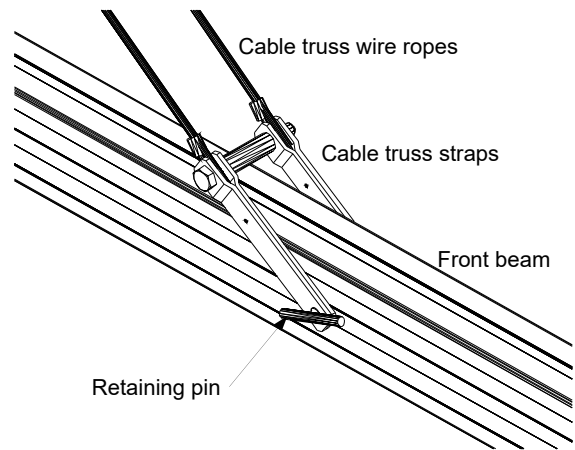

Figure 14. Assembly of Cable Truss Ropes with Cable Truss Strap
4. Ensure that the cable truss wire ropes are attached to their respective Cable Truss Straps. Pin the Cable Truss Strap (SP 166) to a hole provided in the Front Beam at approximately 3 feet (see Figure 14) from the front of the beam using a Retaining Pin (SP 169). Similarly, pin the Cable Truss Strap (SP 167) with the second Mid Beam using the Retaining Pin (SP 169) replacing the normal splice pin.